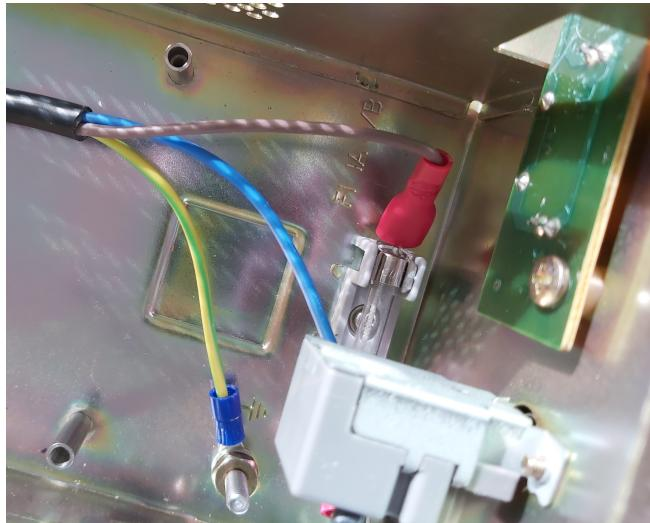

Figure 3.3: Connect the Ground (green) and Live (brown) wires.
4. Firmly push the spade connector onto the fuse holder terminal. Loop the ring connector over the vertical ‘ground’ post and secure it in place with a nut (as shown in Figure 3.3). Note that the fuse itself does *not* need to be replaced.